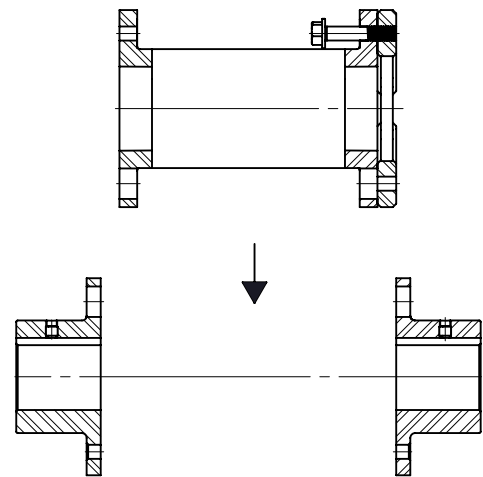

Figure 5
- 3.2.4. Fix the flexible element on one side of the spacer with three bolts. (See figure 5)